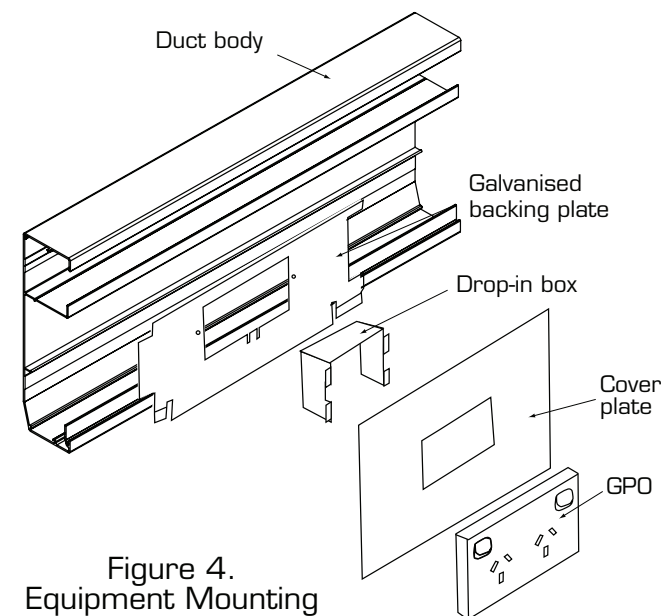

Figure 4.
- 6) Position the galvanised backing plate where the service outlet is going. Refer Figure 4.
- 8) Screw the outlet to the galvanised backing plate once the segregation box is in position. Refer Figure 4.